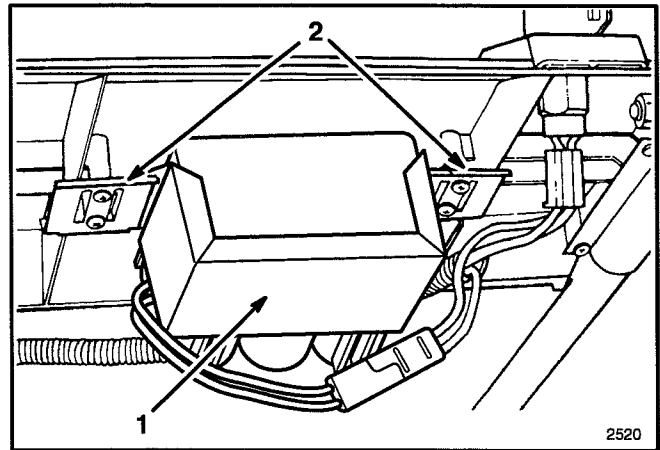

Figure 6
1. Refer to Charging Battery, page 11. Slide battery, decal side facing operator's position, between mounting tabs on back of control panel (Fig. 6).